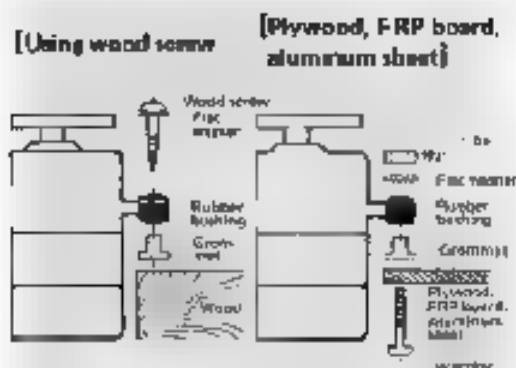

Fig. 17
- Mount the servos firmly. Refer to Fig. 17.